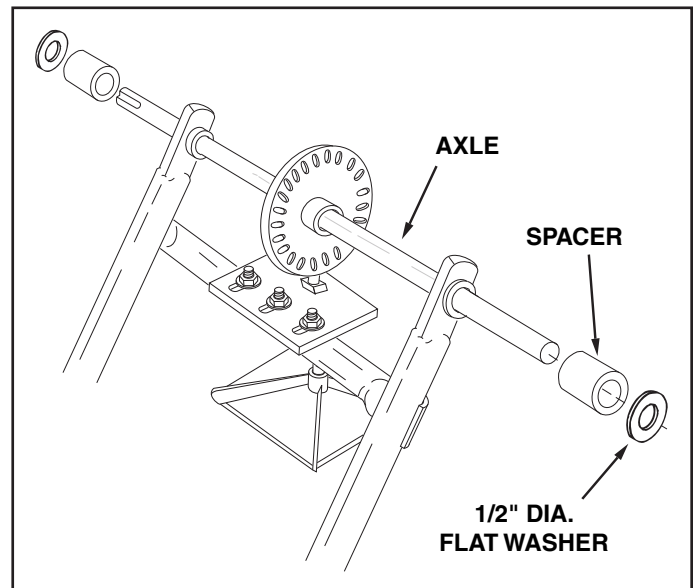

FIGURE 3
8. Assemble a spacer and then a 1/2" flat washer onto each end of the axle. See figure 3.